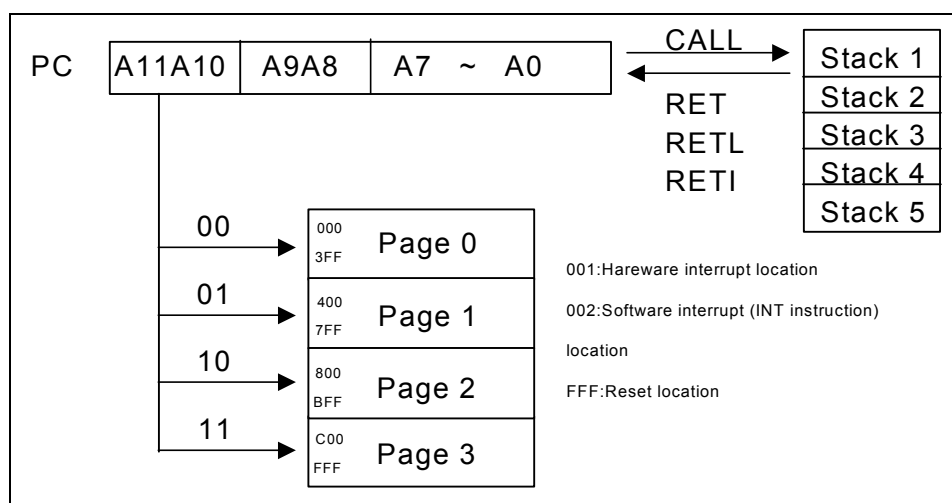

Figure 4-2 Program Counter & Stack Structure
- Depending on the device type, R2 and hardware stack are 10-bit wide. The structure is depicted in Figure 4-2 above.